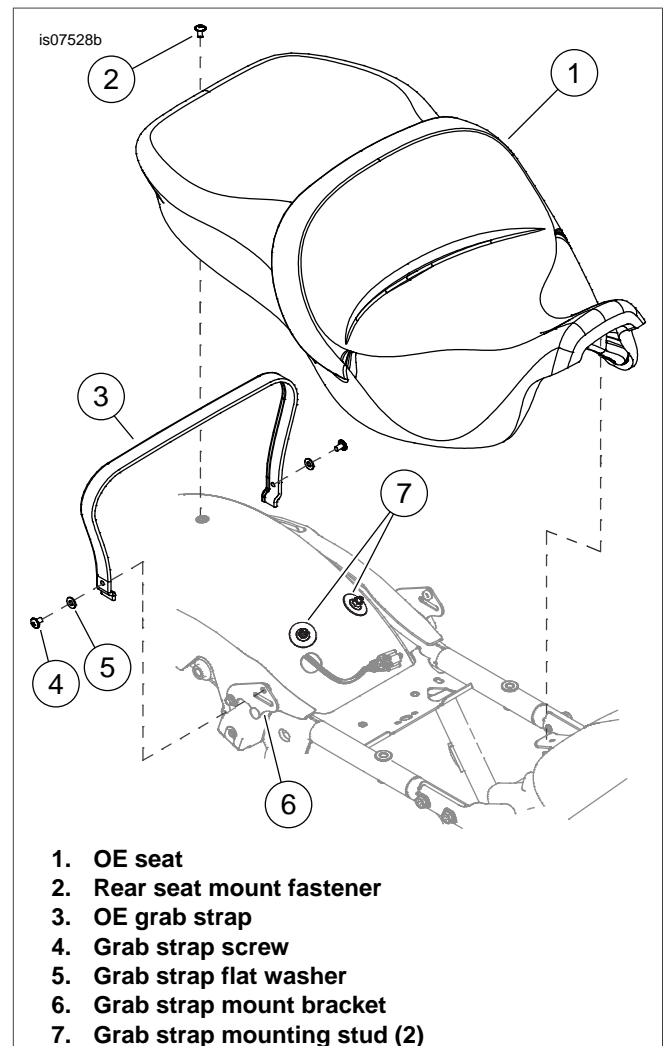

Figure 8. 2014 - Later Touring OE Seat and Grab Strap
- a. See Figure 8. Remove the grab strap screws (4), washers (5) and grab strap (3) from the vehicle. Discard hardware and grab strap.
- b. Grab strap mount brackets (6) can be left on the vehicle or removed. IF removed, install the mount bracket fastener removed earlier per the service manual.